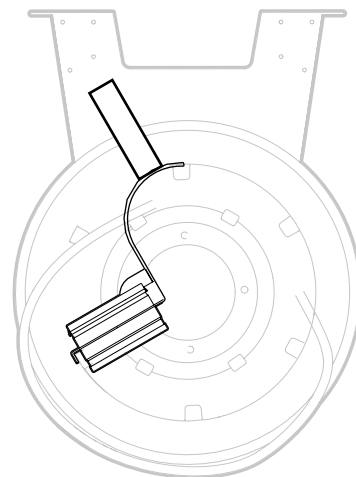
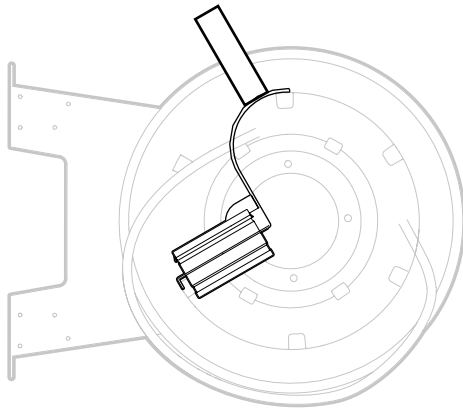

Fig. 8
Fig. 9
4. Continue unrolling the drum until the inlet is 1/3 turn before the desired end position. See Fig. 8 for mounting on the ceiling and Fig. 9 for mounting on the wall/floor.